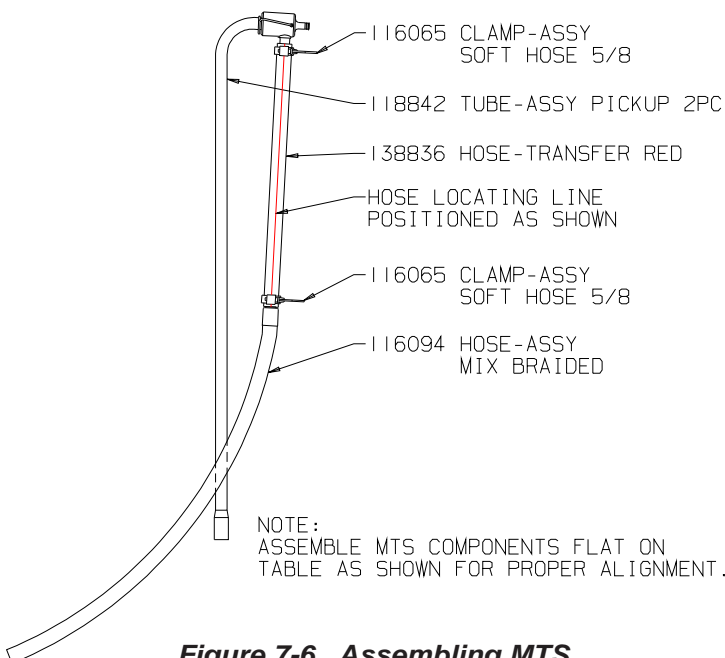

Figure 7-6 Assembling MTS
14. Slide another clamp over the mix transfer hose and connect to the barbed end of the braided hose. Tighten the clamp. Finger tighten only! The thumb screw must lay horizontal as shown in figure 7-6.